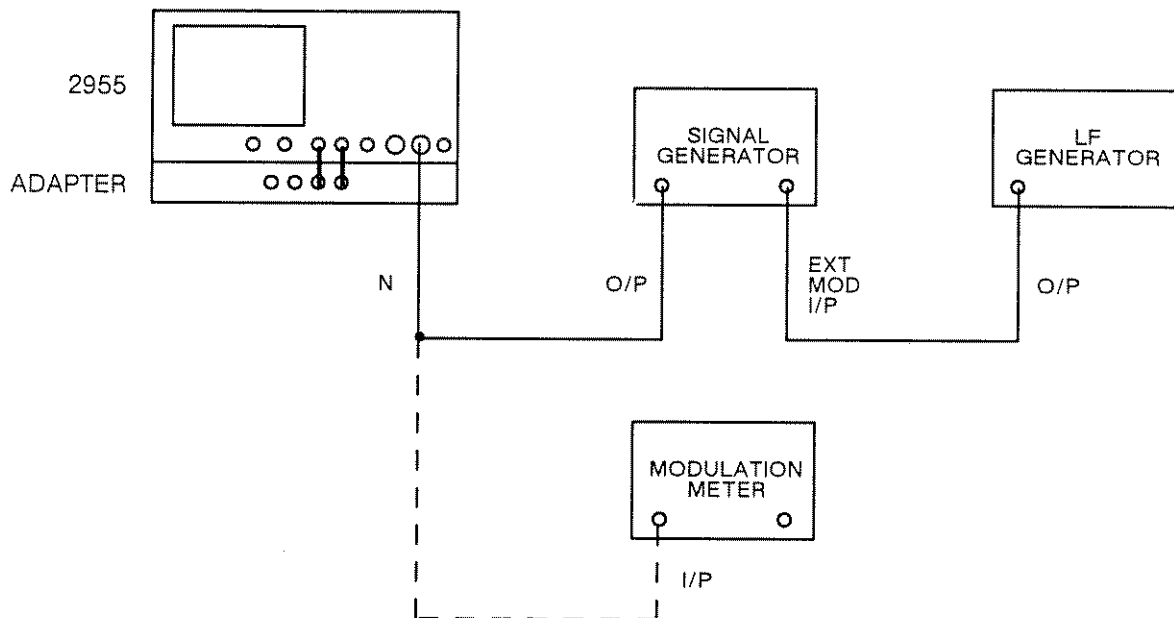

Fig. 5-3 Test equipment connections for SAT measurement test
- (1) Connect the LF generator output socket to the signal generator external modulation input socket and connect the signal generator output socket to the modulation meter input socket as shown in Fig. 5-3.
- (2) Set the LF generator to give an output of 6 kHz at a level suitable for the signal generator being used.
- (3) Set the signal generator to a frequency of 835.020 MHz, 2 kHz external deviation, RF level 13 dBm.
- (4) Set the modulation meter to monitor FM in a 50 Hz to 15 kHz bandwidth with noise average selected.
- (5) Note the deviation displayed on the modulation meter.
- (6) Switch on the Adapter and press the CRTS key.
- (7) Select MANUAL TEST.